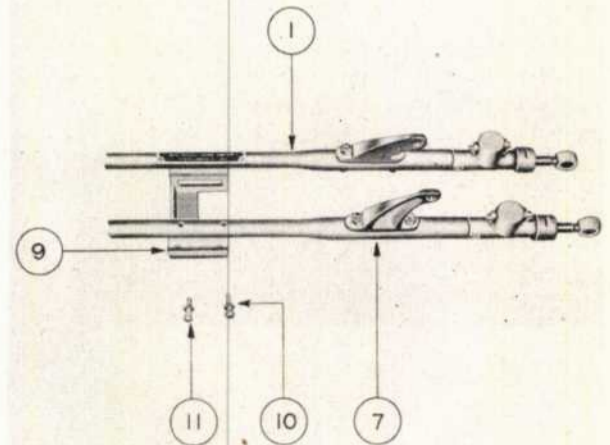

Figure 15—Disassembling Right and Left Bearer Assemblies
d. To disassemble left bearer assembly (1, figure 15) and right bearer assembly (7) from rear trunnion support (9), remove lock washers (10) and support screws (11).
e. Reassemble left bearer assembly (1, figure 15) and right bearer assembly (7) to rear trunnion support (9) by replacing lock washer (10) and support screws (11).